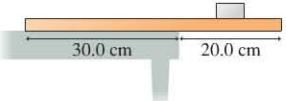

FIGURE P8.15
15. **II** A thin 2.00 kg box rests on a 6.00 kg board that hangs over the end of a table, as shown in Figure P8.15. How far can the center of the box be from the end of the table before the board begins to tilt?